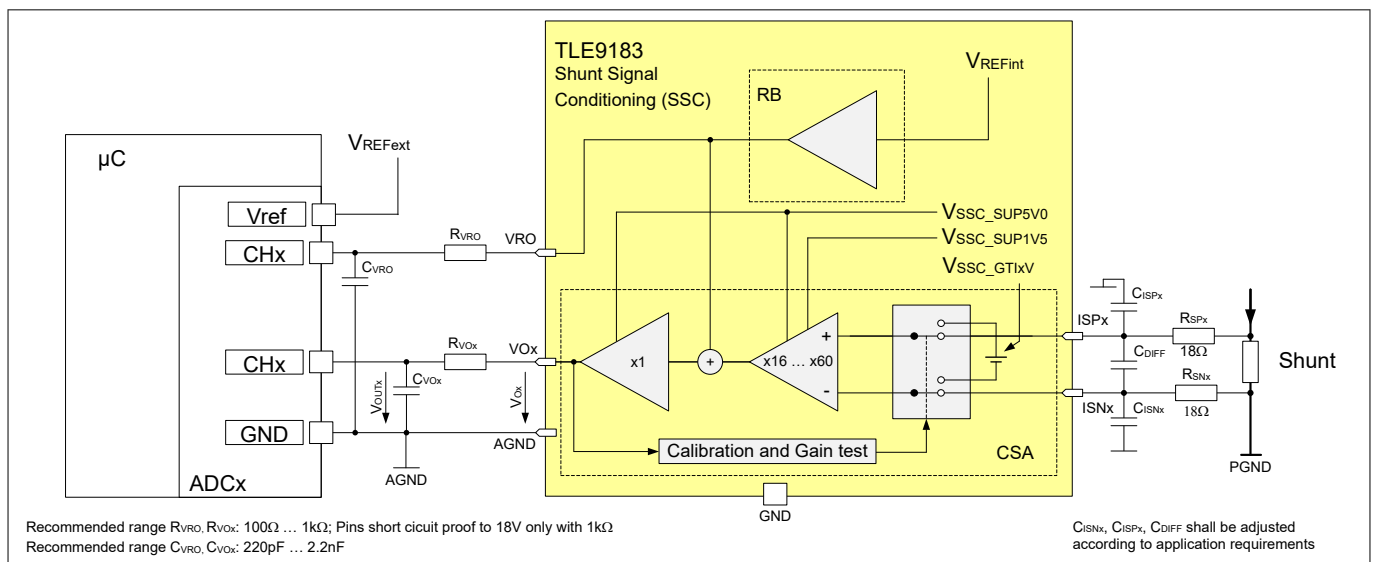

Figure 13 **Simplified Block- and Application Diagram of the Shunt Signal Conditioning**
The shunt signal conditioning (SSC) incorporates 3 precise current sense amplifiers (CSAs) to amplify the voltage drop at the shunt resistors caused by the motor currents and a voltage reference output buffer (RB), see Figure 13.